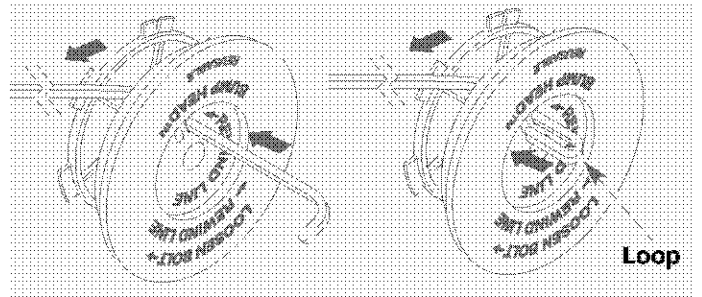

Fig. 38
- Take approximately 20 feet (6.1 m) of new trimming line. Insert one end of the line through one of the two holes in the inner reel (Fig. 38). Pull the line through the inner reel until only about 4 inches is left out.
- Insert the end of the line into the open hole in the inner reel and pull the line tight to make the loop as small as possible (Fig. 38).